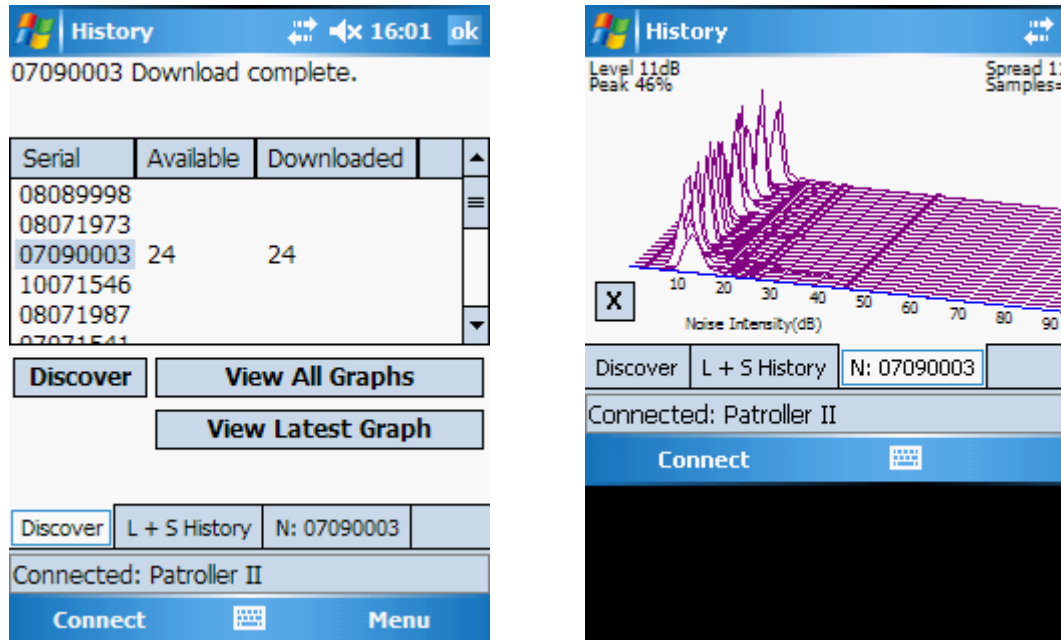

Figure 31: History - View All Graphs
7. You now have the option to close the graph tab, an example of which is shown in *Figure 31*.